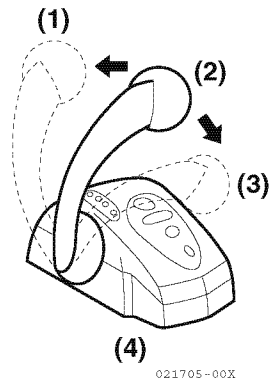

Figure 15
Use the single-lever control head (Figure 15, (4)) in the helm station for AHEAD (Figure 15, (1)), ASTERN (Figure 15, (3)), NEUTRAL (Figure 15, (2)) and speed control in a single installation.